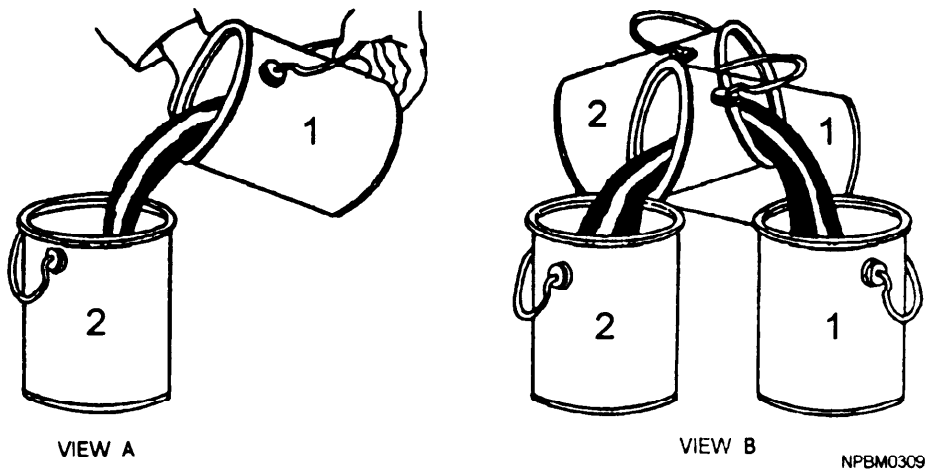

Figure 11-11.—Paint mixing (boxing).
- Pour the top two-thirds of the paint into another can, as shown in view A of figure 11-11.
- Now, start to mix your paint by pouring it back and forth from one can to the other (this is called boxing) until the paint is completely smooth, as shown in view B of figure 11-11.